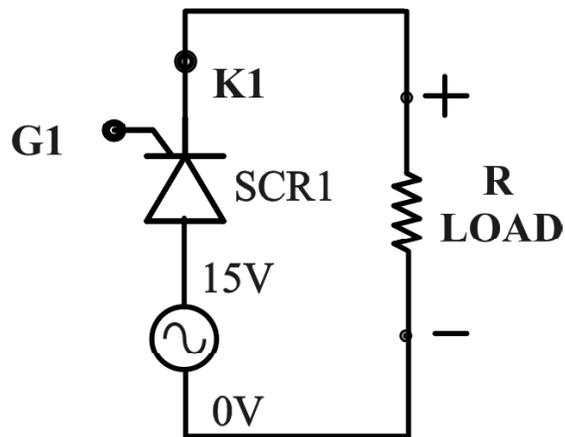

Figure 6
The circuit diagram of basic half wave controlled rectifier is shown below in the figure 6
- 5. Connect the circuit of half wave rectifier as shown figure 6 using 2 mm patch cords.
- 8. Vary the firing control Potentiometer and set on  $30^\circ$ ,  $60^\circ$ ,  $90^\circ$ ,  $120^\circ$  and  $150^\circ$  firing angles using equation (11).